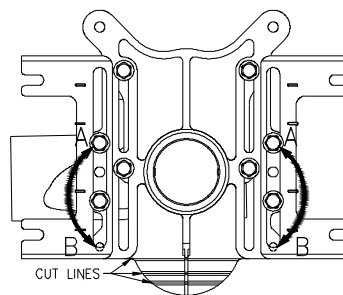

Fig. 4a
4. Factory faceplate/feet assembly is set for a 5 1/2" rough-in height. Locating featuring C (See Fig. 4) on each foot identifies at 7 1/2" rough-in height, commonly used for ADA applications. To adjust the rough-in height, loosen the feet bolts and set the top two bolts to the desired height (adding additional height for tiling where required). For the highest position, swap bolts from A to B location. See Fig. 4a. Secure bolts using wrench (25-35 lb-ft of torque).